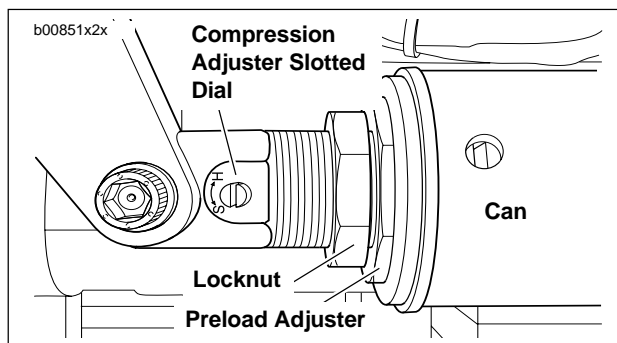

Figure 1-32. Rear Shock Preload Adjustment
- b. See Figure 1-32. To decrease preload, move the can towards the front of the motorcycle. To increase preload, move the can towards the rear of the motorcycle.